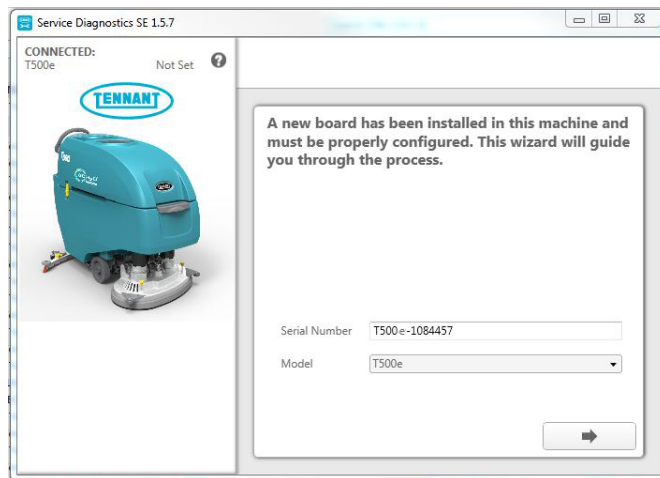

Fig. 7
6. The following screen will appear when the application software is connected to machine (Figure 7). Enter the machine serial number from the label on machine (ex. T500e-12345678). Select the appropriate model from the drop-down menu. Press the arrow button to advance to next screen.